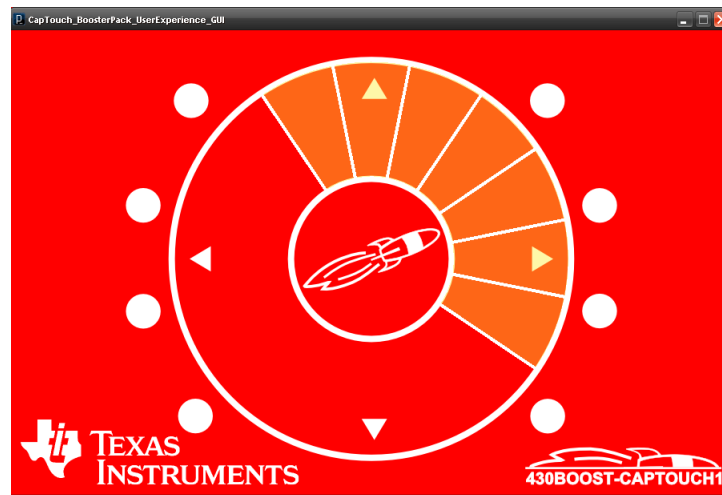

Figure 4. PC GUI in Active Mode
4. The gesture tracking (Start, Stop, and Update) is visualized on the wheel with the coloring of the wheel slices (see Figure 4). Gesture can be tracked for several revolutions of the wheel, in both clockwise and counter-clockwise directions ⁽¹⁾.